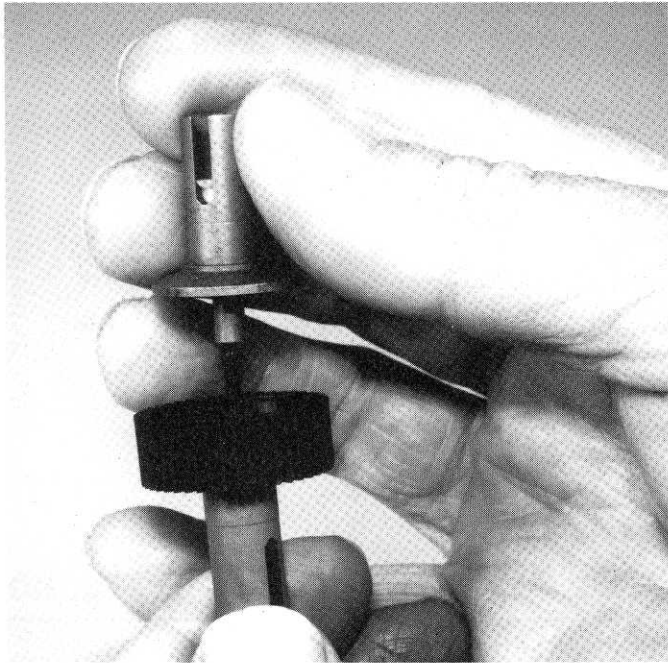

Fig. 44
□ **Figs. 44 & 45** Slip the left hand hub down onto the bolt, making sure the hub centers itself onto the drive rings. THIS IS IMPORTANT.